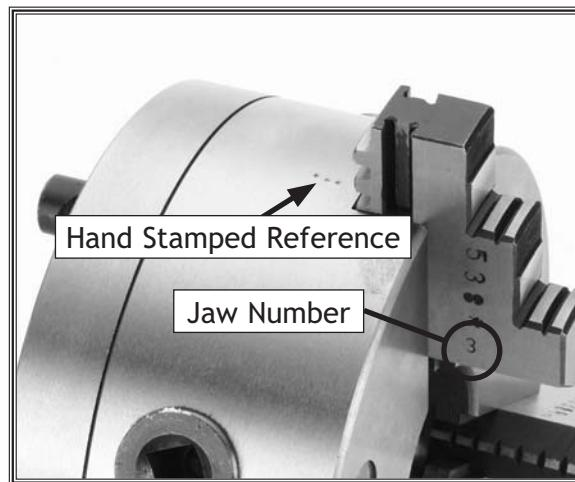

Figure 22. Stamped marks identifying jaw guide and corresponding jaw number.
2. Identify the jaw position by the number usually stamped on the side of the jaw (see Figure 22).
Note: The chuck should have a mark near the jaw guide that corresponds to the jaw number. If it does not, locate the jaw number on the jaw and mark the chuck to identify that position (see Figure 22). The reference numbers may be stamped in an area that is not readily visible. As soon as you find the number on the jaw, make some kind of reference mark on the corresponding jaw guide.
2. Identify the jaw by the number stamped on the side. (refer to Figure 22).